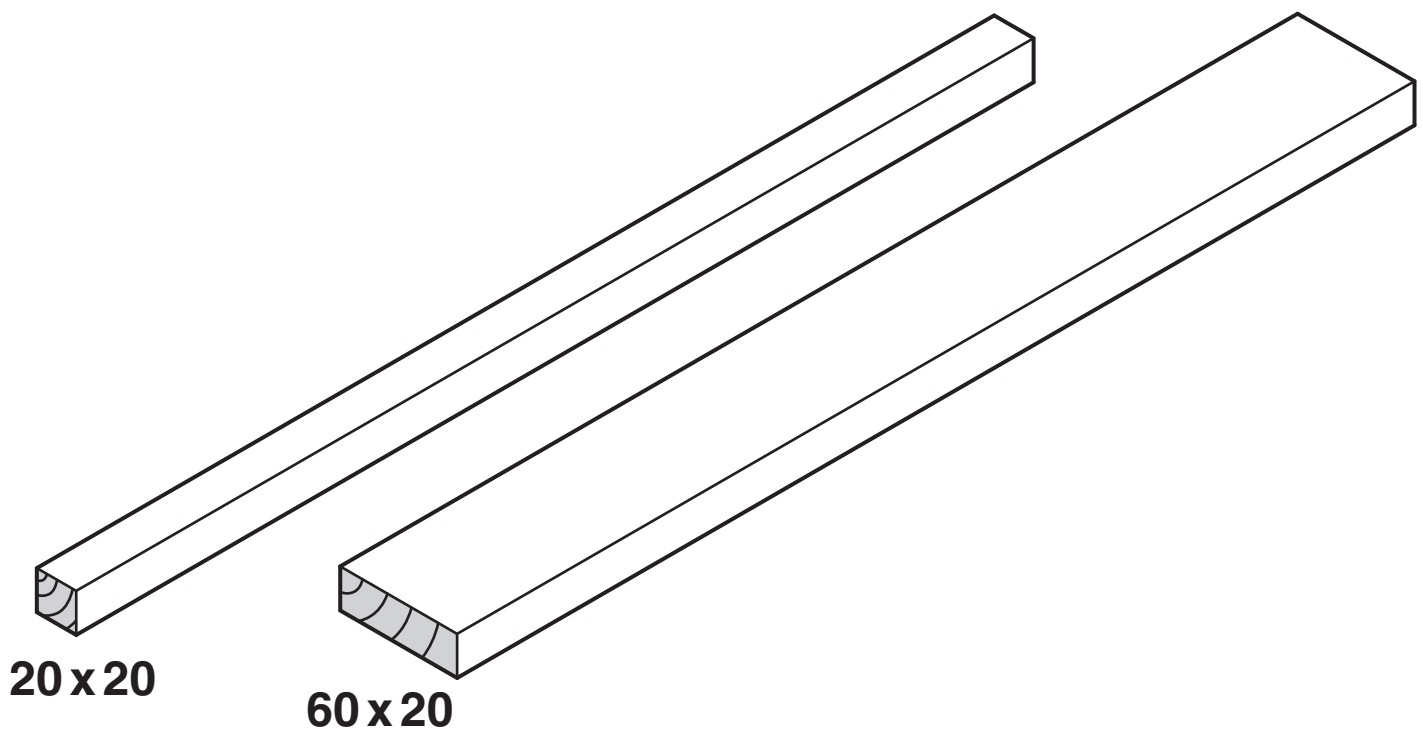

Fig. 2
- (d) Fig. 2 shows two strips of beech from which the building blocks are constructed.